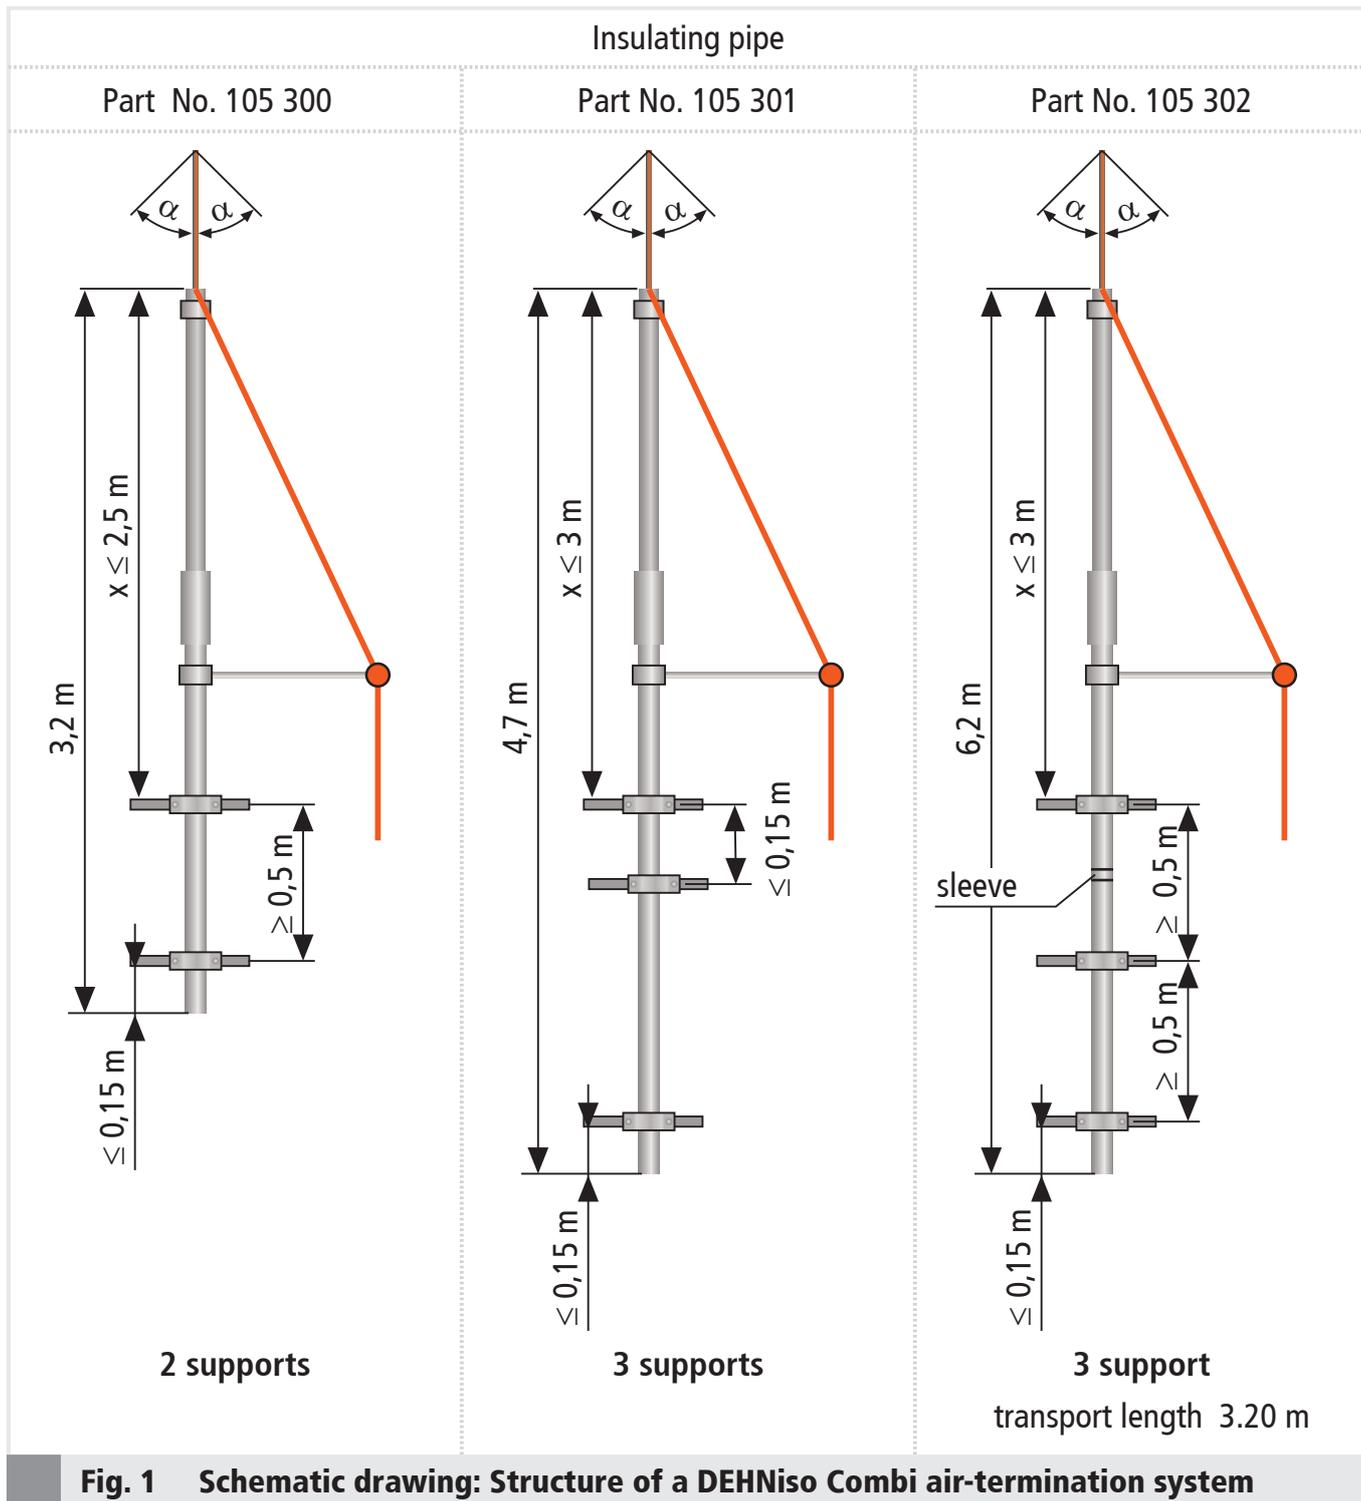
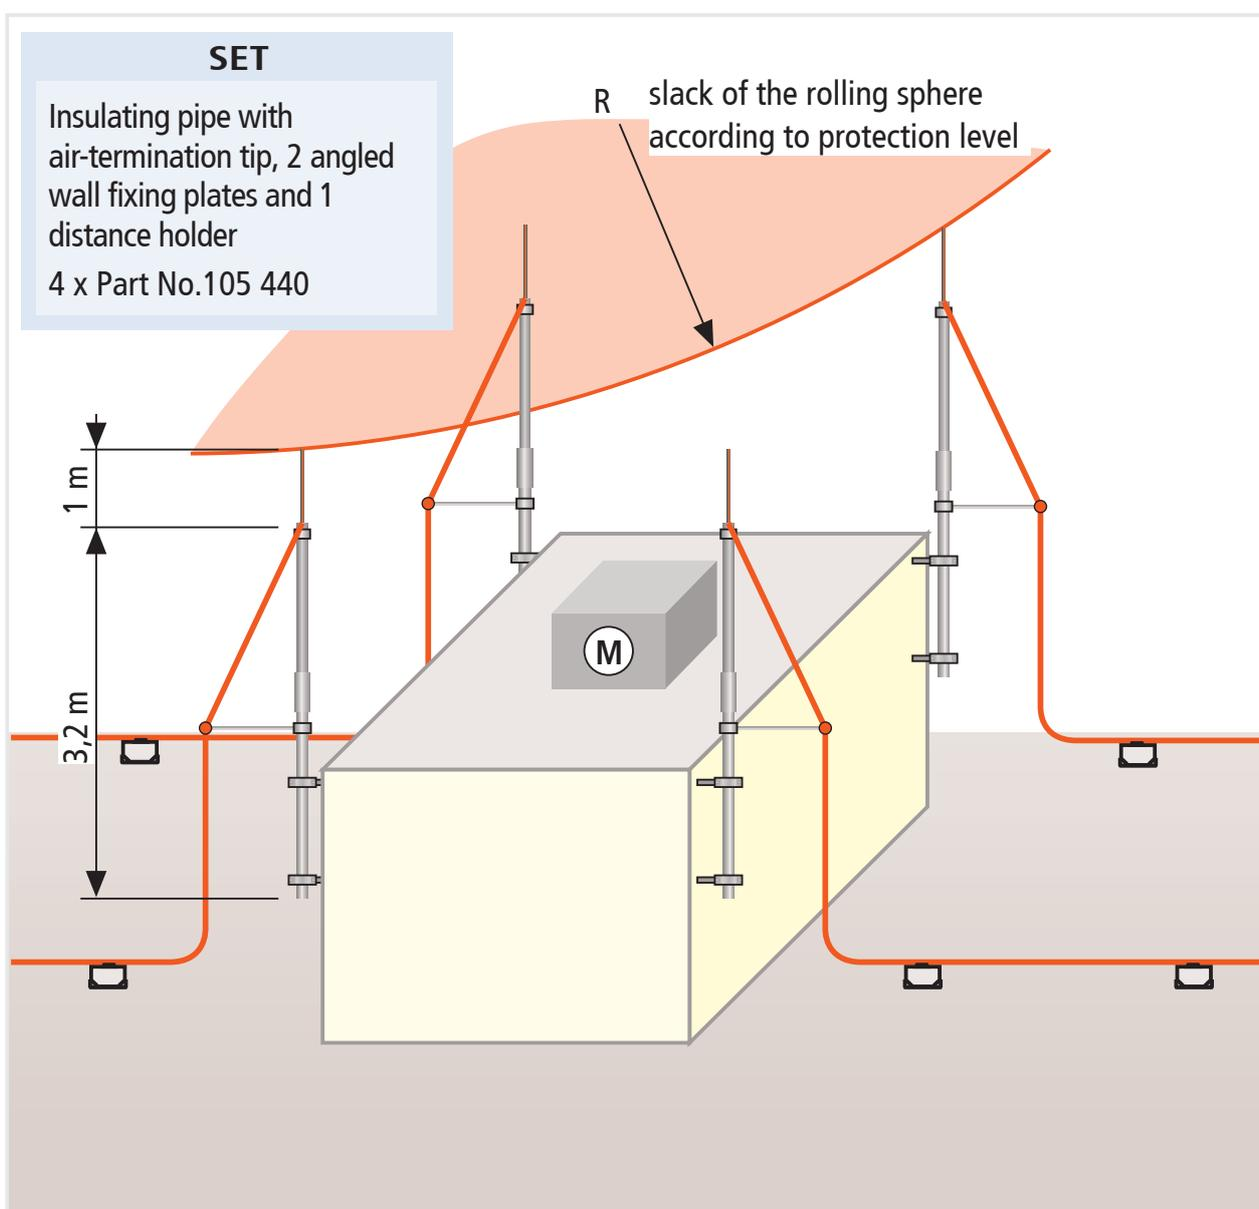

Fig. 1 Schematic drawing: Structure of a DEHNiso Combi air-termination system
Fig. 3 DEHNiso Combi Set without spanned stranded conductor
An isolated air-termination system consists of a single air-termination rod (see Figs. 2a and 2b) or a combination of several air-termination rods (see Figs. 3 to 8).
Fig. 1 shows the different basic types of an individual air-termination rod as well as data about the max. dimensions and fixing.
The DEHNiso Combi system consists of insulating pipes with different lengths, fixing elements for wall mounting or mounting at parts of the construction, as well as accessories (see Figs. 2a and 2b) or prefabricated sets, consisting of the insulating pipe with air-termination tip, angled fixing plate and distance holder (see Figs. 3 to 5).
The protective area of a single air-termination system is defined by protective angle α accordance with IEC 62305-3, (see Fig. 1). The protective area between several air-termination rods is determined by the rolling sphere protection principle (see Fig. 3).
- The maximum free length x for installing the insulating pipes, based on the top support (fixing point) (see Fig. 1).